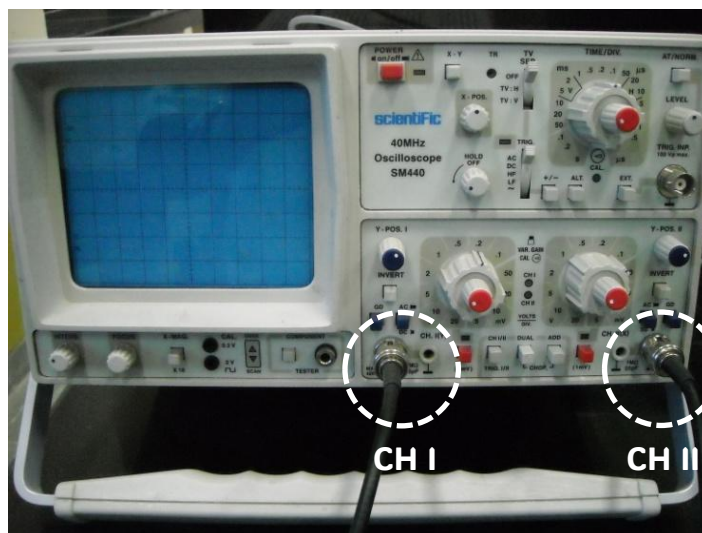

**Fig. 1**
→ The control unit is shown in *fig. 1* and already discussed above. The control unit is already placed in the proper position (left side of the base plate next to the scaling) as shown in the figure.
- Turn the "Phase" rotary switch (*Fig. 1*) of the operating unit to the right until you see a straight line (*Fig. 14*). Note this position of the mirror as  $x_1$ .